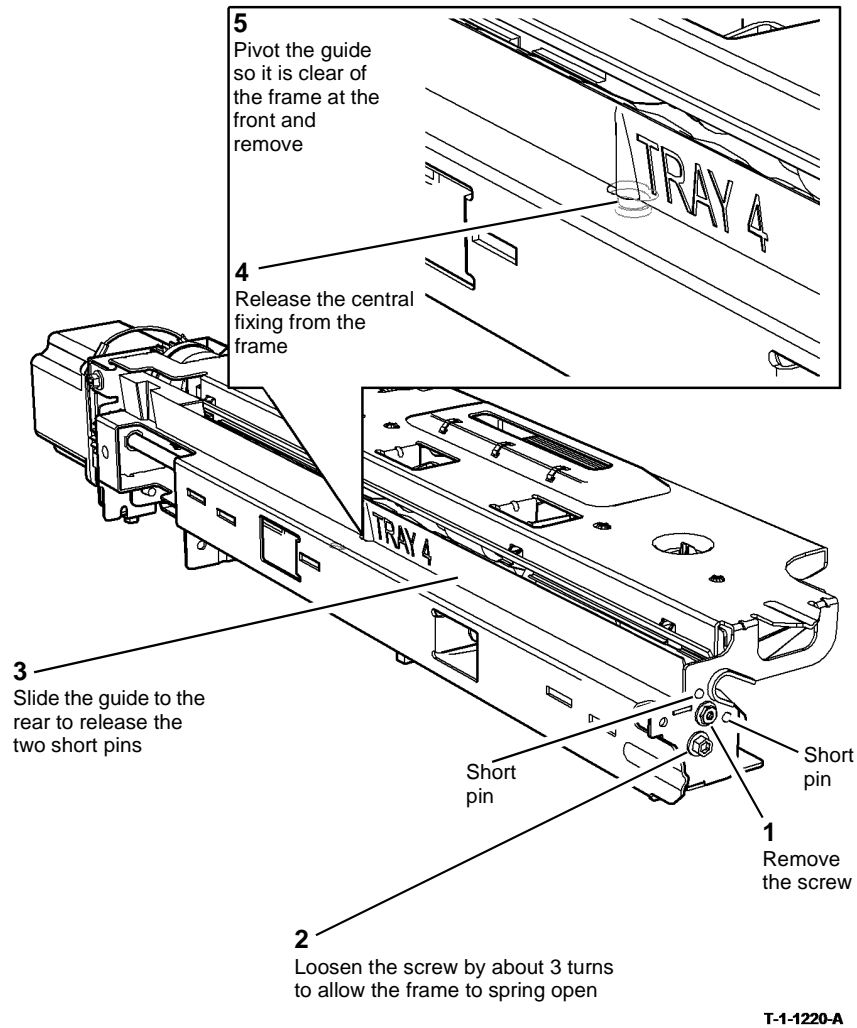

Figure 1 Paper guide removal
- Remove the tray 4 paper guide, Figure 1.